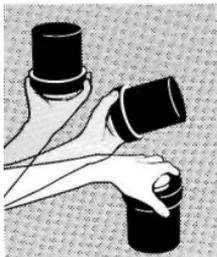

FIG. 2
- 2 After one minute, invert the tank and at once return it to the upright position (see Fig. 2).